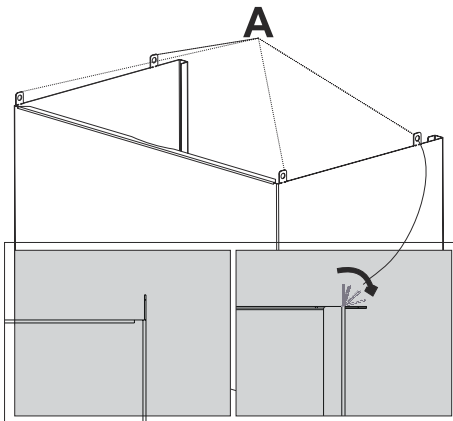

Fig. 17
6. → Pull the interior flue through the exterior flue. Interior flue has 4 mounting parts on it. Bend these interior parts outwards 90° (Fig. 17).